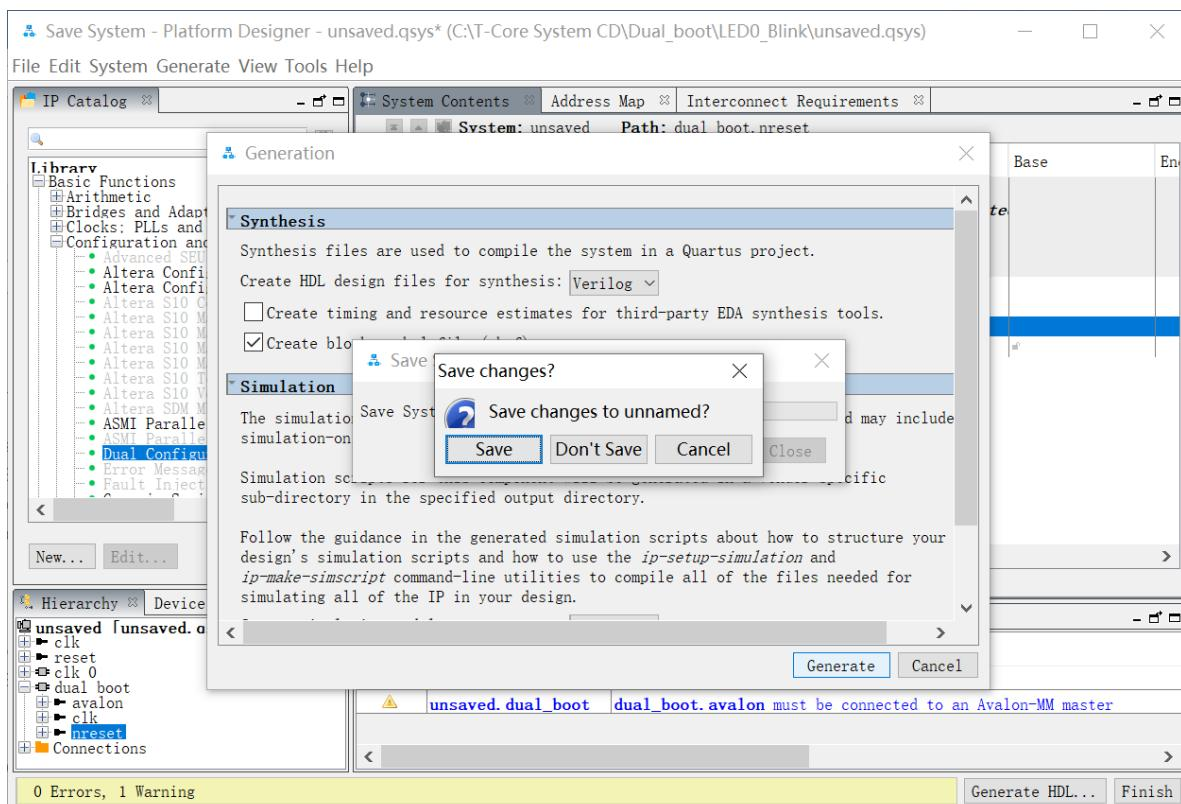
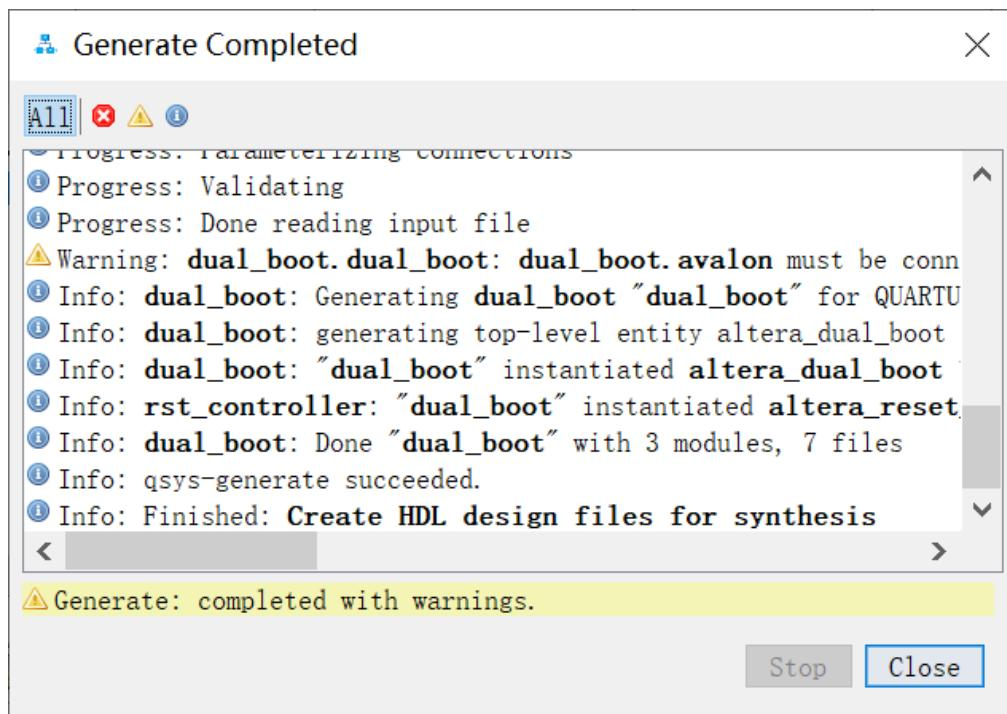

Figure 4-8 Generate and Save Qsys.
Figure 4-9 Generate completed.
4. Click “Generate HDL..” button and click **Generate** button when popping a window as shown in **Figure 4-8**. Click **Save** it as **dual_boot.qsys** and the generation start. If there is no error in the generation, the window will show successful as shown in **Figure 4-9**.